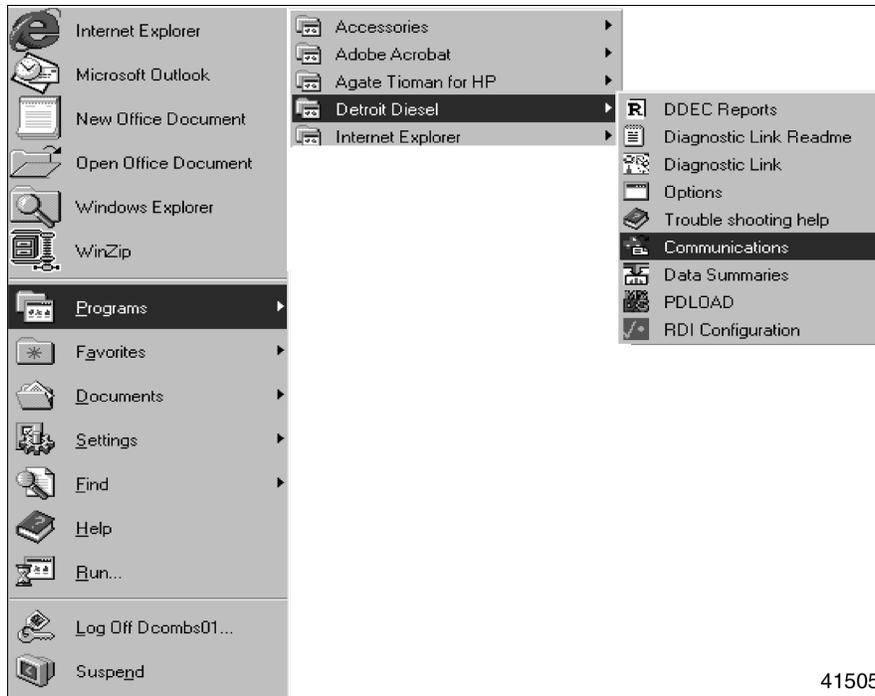

Figure 11 Select *Communications* from *Detroit Diesel* Menu
4. Select *Communications*. See Figure 11.